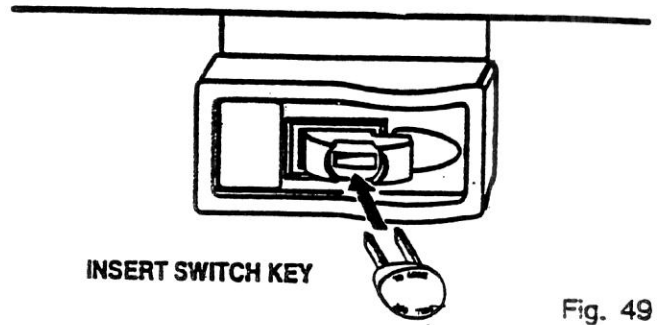

Fig. 49
- Check that the wood is not touching the blade. Insert switch key and lift switch to ON position. See Figures 49 and 50